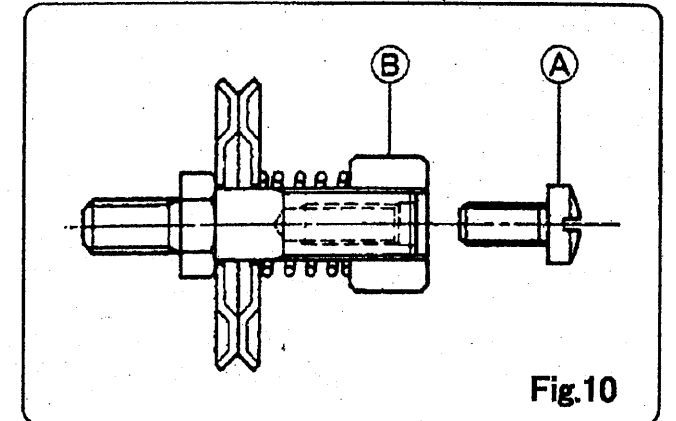

Fig.10
#### 1. Thread Tension (Fig.10)
The thread tension spring is preset at the factory to sew PP woven cloth bags. If some adjustment is needed, first loosen screw (A) (9/64S40054) and adjust the thread tension nut (B) (245092) as per Fig.10. When the adjustment is finished, retighten screw to lock the thread tension nut.